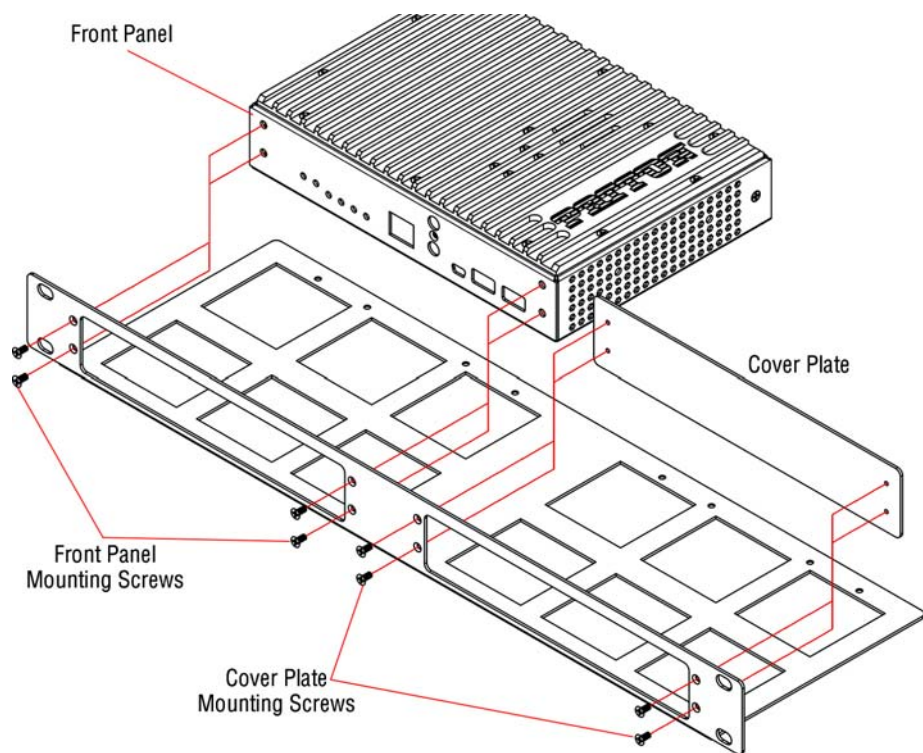

Figure 7. Installing the FPX6000 and Cover Plate
2. Use 4 mounting screws included with the bracket to secure the FPX6000 front panel to the bracket at one of the mounting locations on the rack-mounting bracket (see **figure 7** on page 8).
4. If there is another FPX6000 to install in the bracket, go to step 5. Otherwise, use 4 mounting screws included with the bracket to install the cover plate (see **figure 7**), then go to step 6.